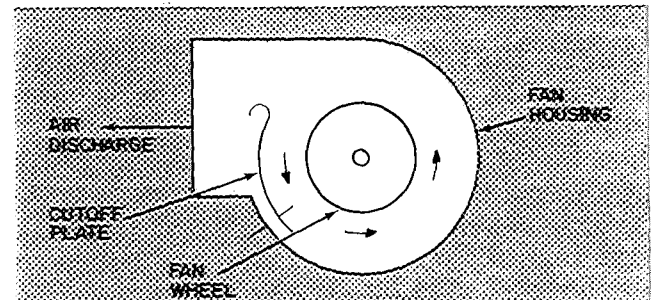

Fig. 22 — Fan Rotation
- **Fan Rotation** — Correct fan rotation in respect to fan outlet is shown in Fig. 22. To check for proper fan rotation, remove service access panels and jog fan motor switch. If fan rotation is incorrect, it must be reversed.